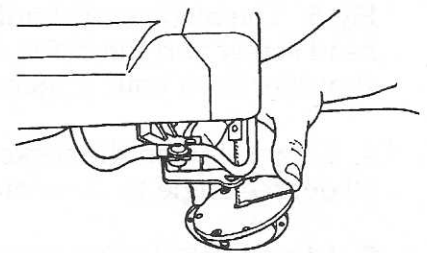

Fig.1
1. Make sure that the four screws (3) are installed in the table (1).
2. Place the table insert (2) in the table (1) insert opening as shown in Fig.1. Slide the two spring clips (located on the rear underside of the table insert) under the bottom rear edge of the insert opening.